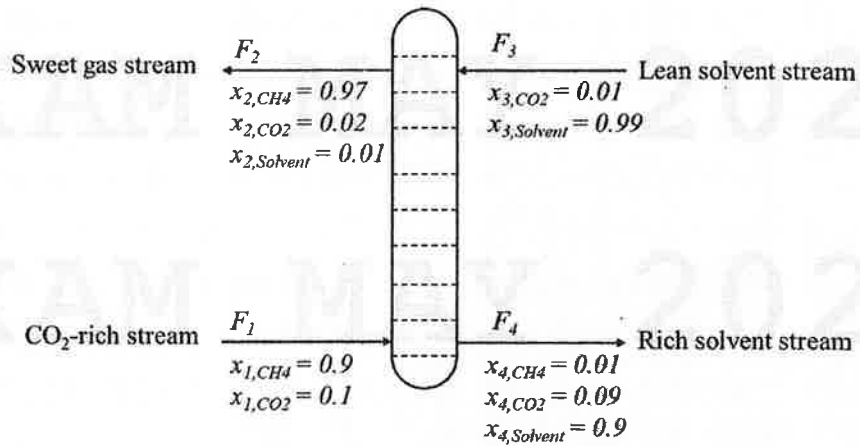

FIGURE 3a Absorption column
3. a. A CO₂-rich stream (F_1) with 100 kmol/h is to be treated in absorption column at steady-state to remove CO₂ from the natural gas using lean solvent as shown in **FIGURE 3a**: